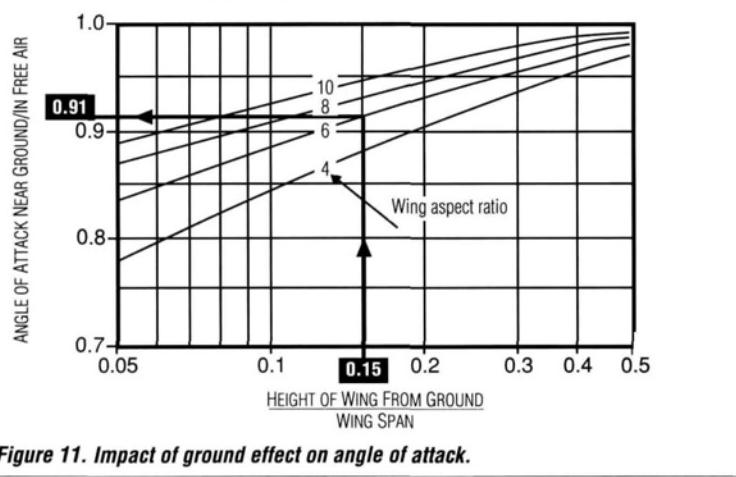

Figure 11. Impact of ground effect on angle of attack.
- **Ground effect**, as shown in Figure 11, at 0.15 of the wingspan (60×0.15 , or 9 inches) above ground, the stall angle is reduced to 0.91 of its value at altitude,